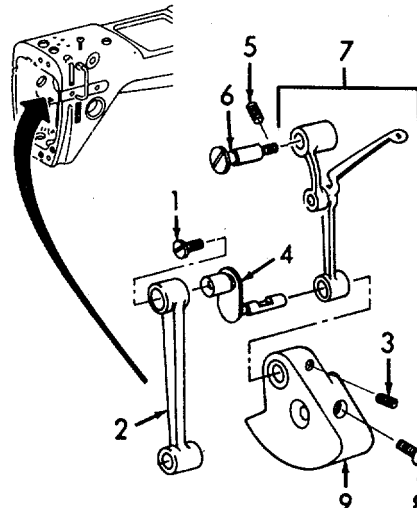

Figure 6-70. Needle Bar Linkage, Removal.
a. *Removal (Refer to Figures 6-70 and 6-71).*
(1) Refer to Figure 6-70. Remove left-hand threaded screw (1) and crank rod (2).
(2) Loosen two setscrews (3) (3) and remove crank (4).